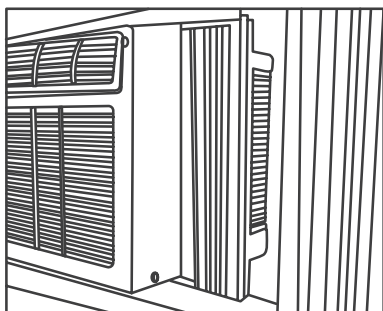

Fig.5
2. Keep a firm grip on the air conditioner, carefully place the unit into the window opening so the bottom of the air conditioner frame is against the window sill (Fig.5). Carefully close the window behind the top rail of the unit. (It is suggested to keep a downward oblique angle to allow accumulated rainwater to drain out from the back side of the unit bottom.).